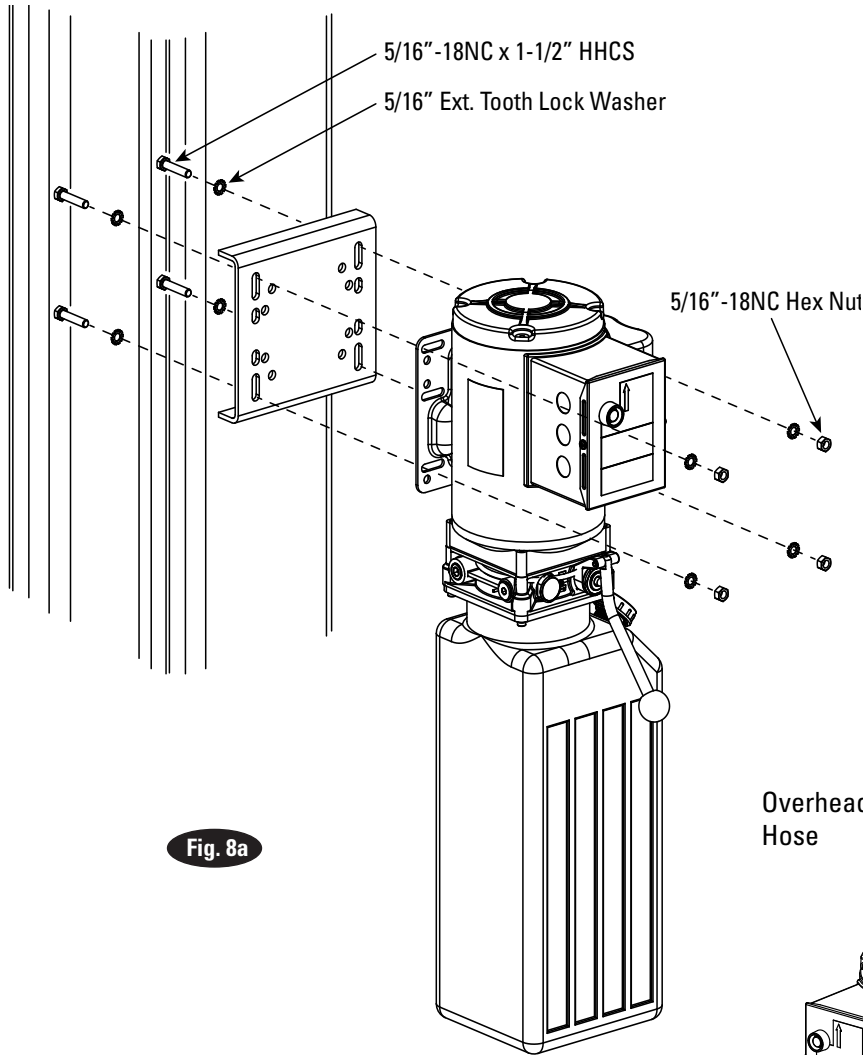
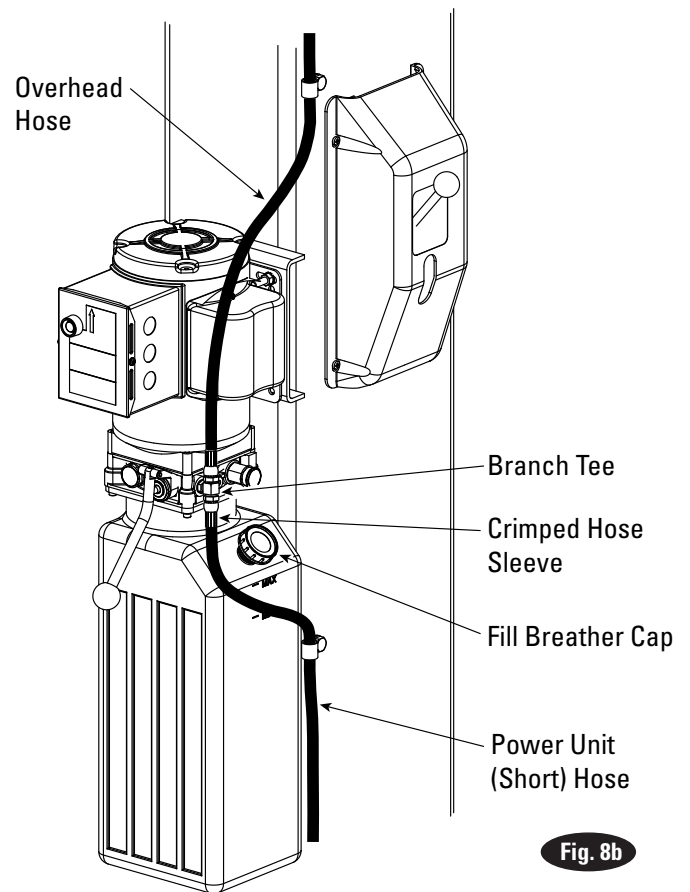

Fig. 8a
Fig. 8b
9. Power Unit: Put the (4) 5/16" -18NC x 1-1/2" HHCS thru holes in power unit bracket using (4) 5/16" Ext. Tooth Lock Washers. Mount power unit with motor up to column bracket and install (4) 5/16" Ext. Tooth Lock Washers and (4) 5/16" -18NC Hex Nuts, Fig. 8a. Install and hand tighten Branch Tee to pump until O-ring is seated. Continue to tighten the locknut to 10-15 ft-lbs., or until the nut and washer bottom out against the pump manifold, Fig. 8b.
10. Hoses: Clean adapters and hose. Inspect all threads for damage and hose ends to be sure they are crimped, Fig. 8b. Install hose and hose clamps, Fig. 9.
- A) Attach Mounting Bracket on column as shown in Fig. 16a using (2) 5/16" -18NC x 1-1/2" HHCS, (2) 5/16" -18NC Hex Nuts, and (2) 5/16" Ext. Tooth Washers, shown in Fig. 8a.
- B) Attach Control Box to Bracket using (4) 1/4" -20NC x 1/2" HHCS, (4) 1/4" Flat Washers, and (4) 1/4" Star Washers.